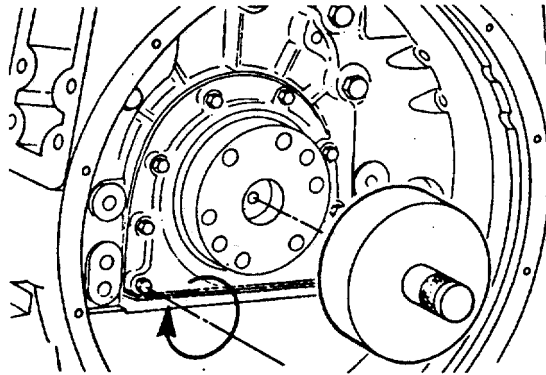

FIGURE 3-94. Checking Rear Cover and Oil Pan Flange.
- (h) Tighten the rear cover mounting capscrews to 35 ft-lb (45 N•m) torque, and remove the crankshaft oil seal driver (FIGURE 3-94) .